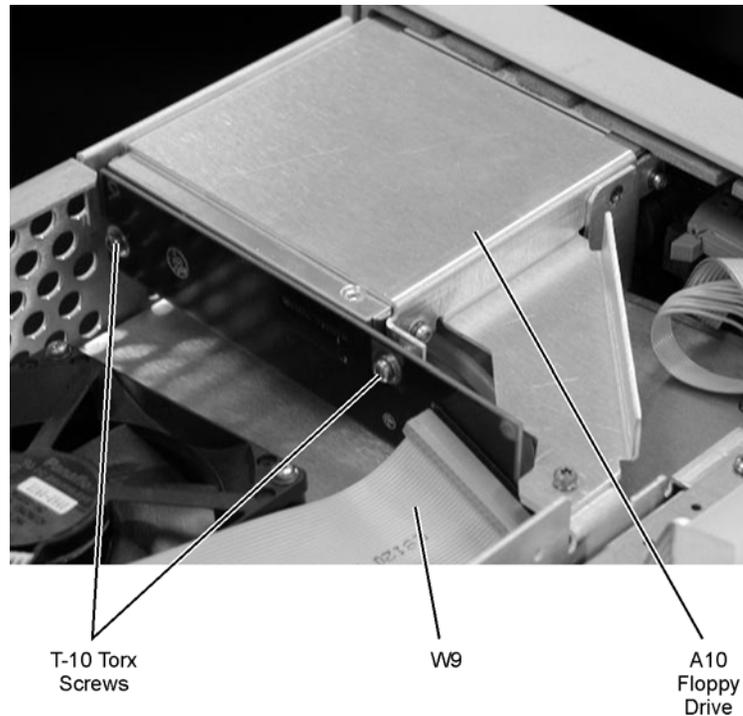

Figure 6-18. LS-120 and A-10 Floppy Drive
- 3 Using a T-10 TORX driver, remove the two screws that secure the A16 LS-120 board to the rear of the A10 floppy drive. Refer to Figure 6-18.
- 4 Remove the ribbon cable, W9 and the board assembly. Refer to Figure 6-18.
- 6 Secure the A16 LS-120 Board to the A10 Floppy Drive with two, T-10 Torx Screws. Refer to Figure 6-18.
- 7 Secure the ribbon cable W9 to the A16 LS-120 Board. Refer to Figure 6-18.